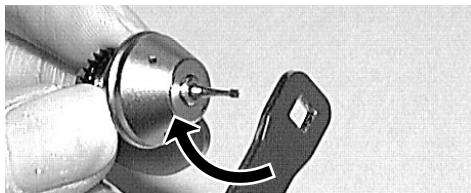

Fig.22
- ③ Finally insert the rotor shaft nut along the test bur, and firmly tighten it with a wrench while holding the rotor. (Fig.22)